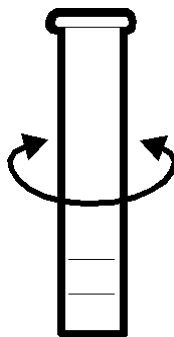

Figure 2, Swirling the Sample
- Cap the sample tube and swirl for 10 seconds to mix contents. (See Figure 2).